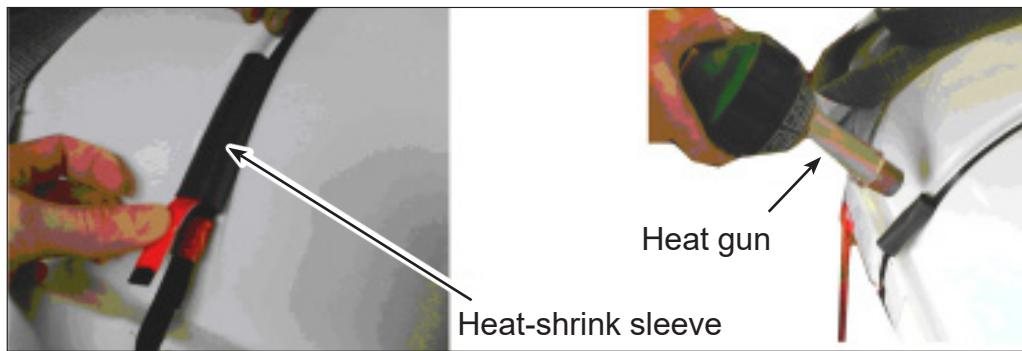

FIGURE 899V
- 9.64.1 Use the heat gun to heat the rear of the heat-shrink sleeve evenly from both left and right hand sides. Make sure that the entire crimp and tail are completely encapsulated. Refer to **Figure 899V.**